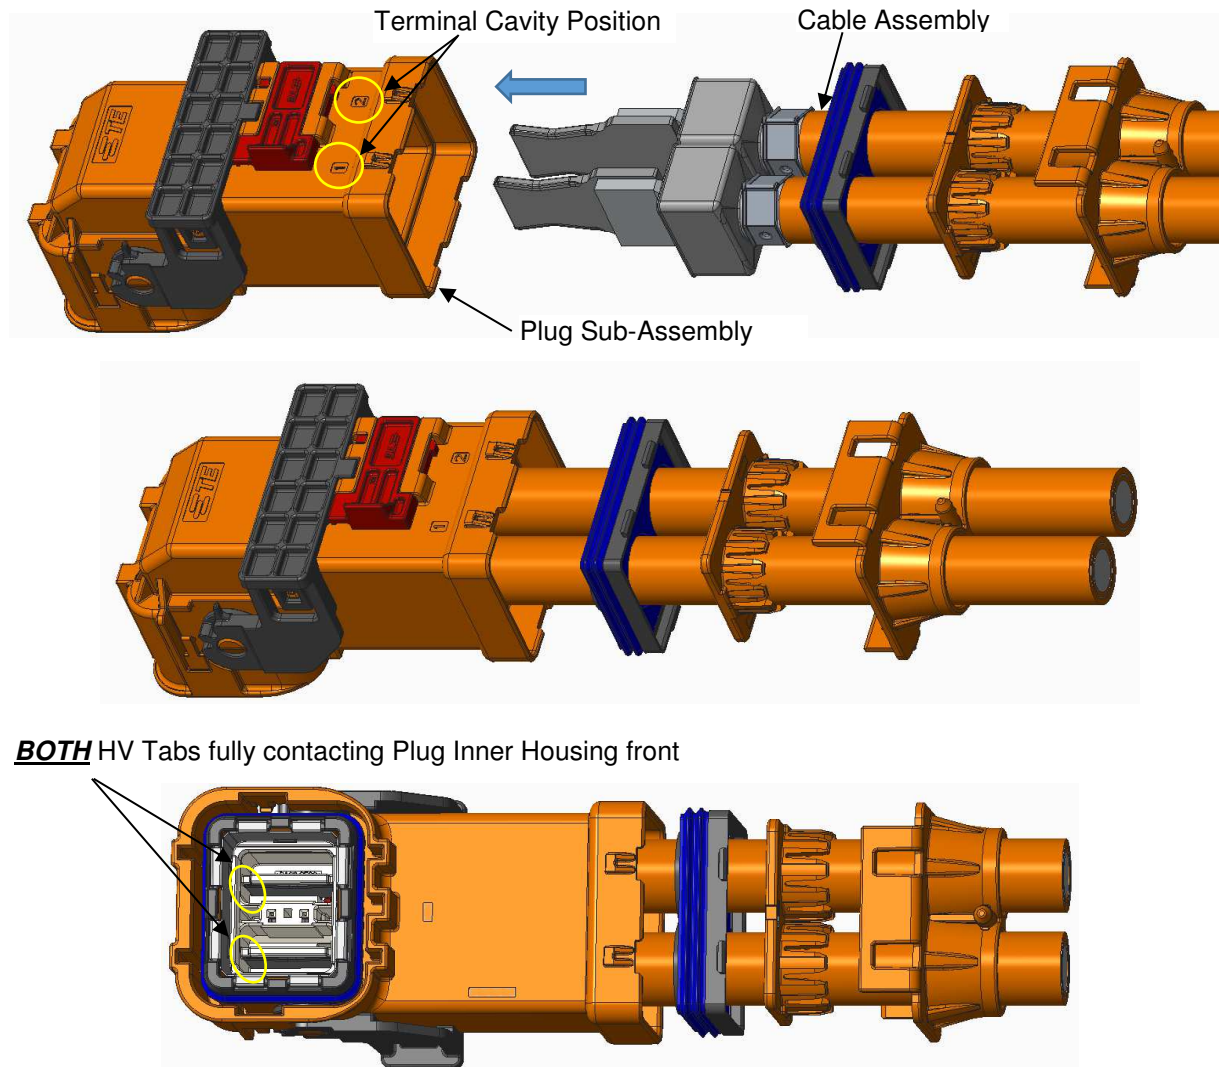
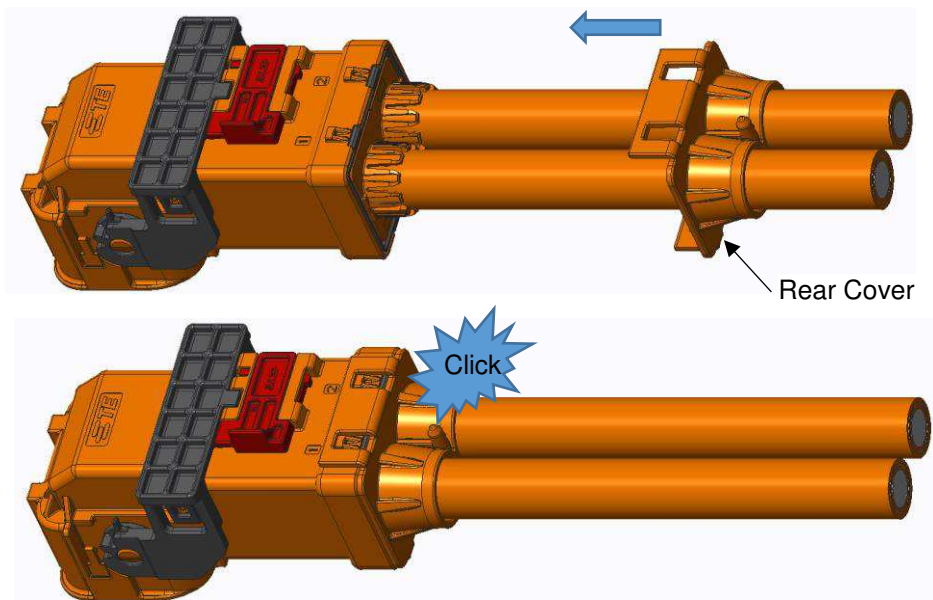

Figure 9: Cable Assembly
Figure 12: Rear Cover Assembly
- Figure 9:** removed "Click"
6. Install the cable assembly into the plug sub-assembly in the orientation shown until ***BOTH*** HV Tabs are fully contacting the Plug Inner Housing front surface as shown in Figure 9.
9. With ***BOTH*** HV Tabs fully contacting the Plug Inner Housing (refer to Figure 9), slide the rear cover forward on the cable and latch to the plug sub-assembly as shown in Figure 12. Verify that all four rear cover latches are fully locked.